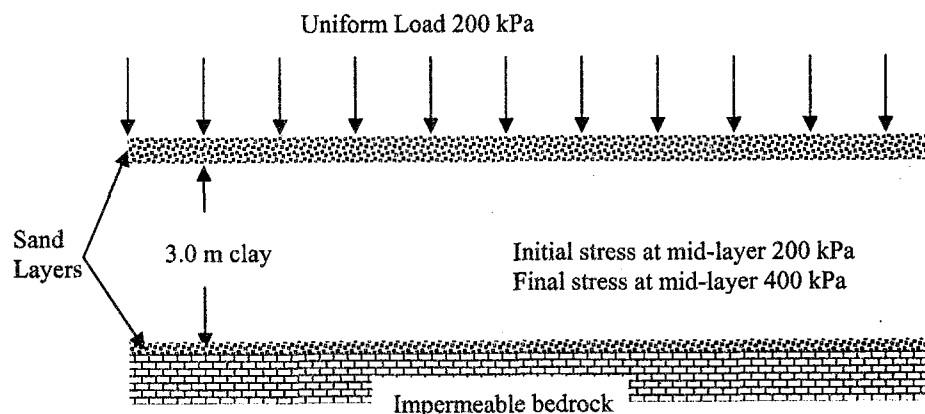

Figure 2
5. [c] The thickness of clay layer in the field after consolidation is 3 m, as shown in Figure 2. The vertical effective stress before consolidation was 200 kPa. Consolidation happened due to a uniform load with an average stress of 200 kPa resulting in the overall stress of 400 kPa. Determine total settlement that has occurred.